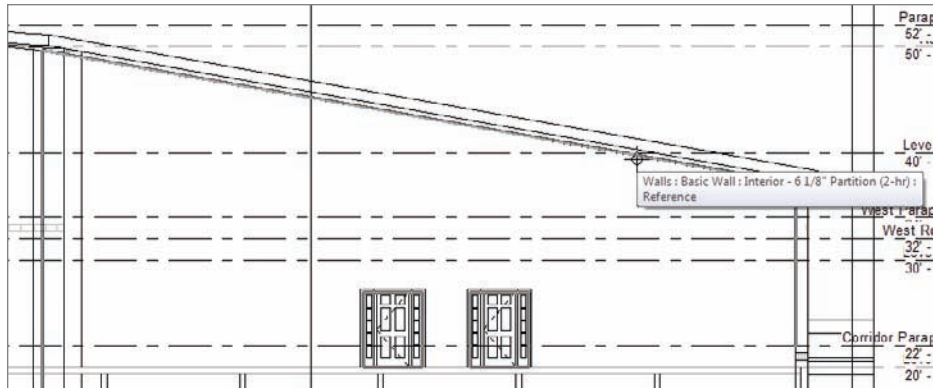

FIGURE 10.78 Picking the far wall to establish a work plane
15. Pick the far wall, as shown in Figure 10.78.